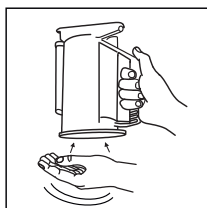

Figure 1
2. Observe that when handling and rotating the Multi-Absorber canister channeling of the absorbent might occur. The channeling can reduce the CO₂ absorption capacity of the product resulting in early CO₂ breakthrough. Channeling can be removed by tapping the canister gently on a hand or on a table 3–4 times in the orientation in which it will be installed (see Figure 1).